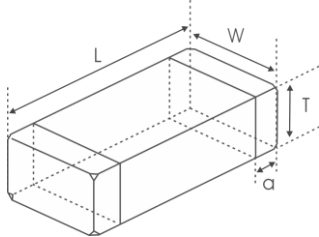

Fig. 2-1
- 1) Dimensions: See Fig.2-1 and Table 2-1.